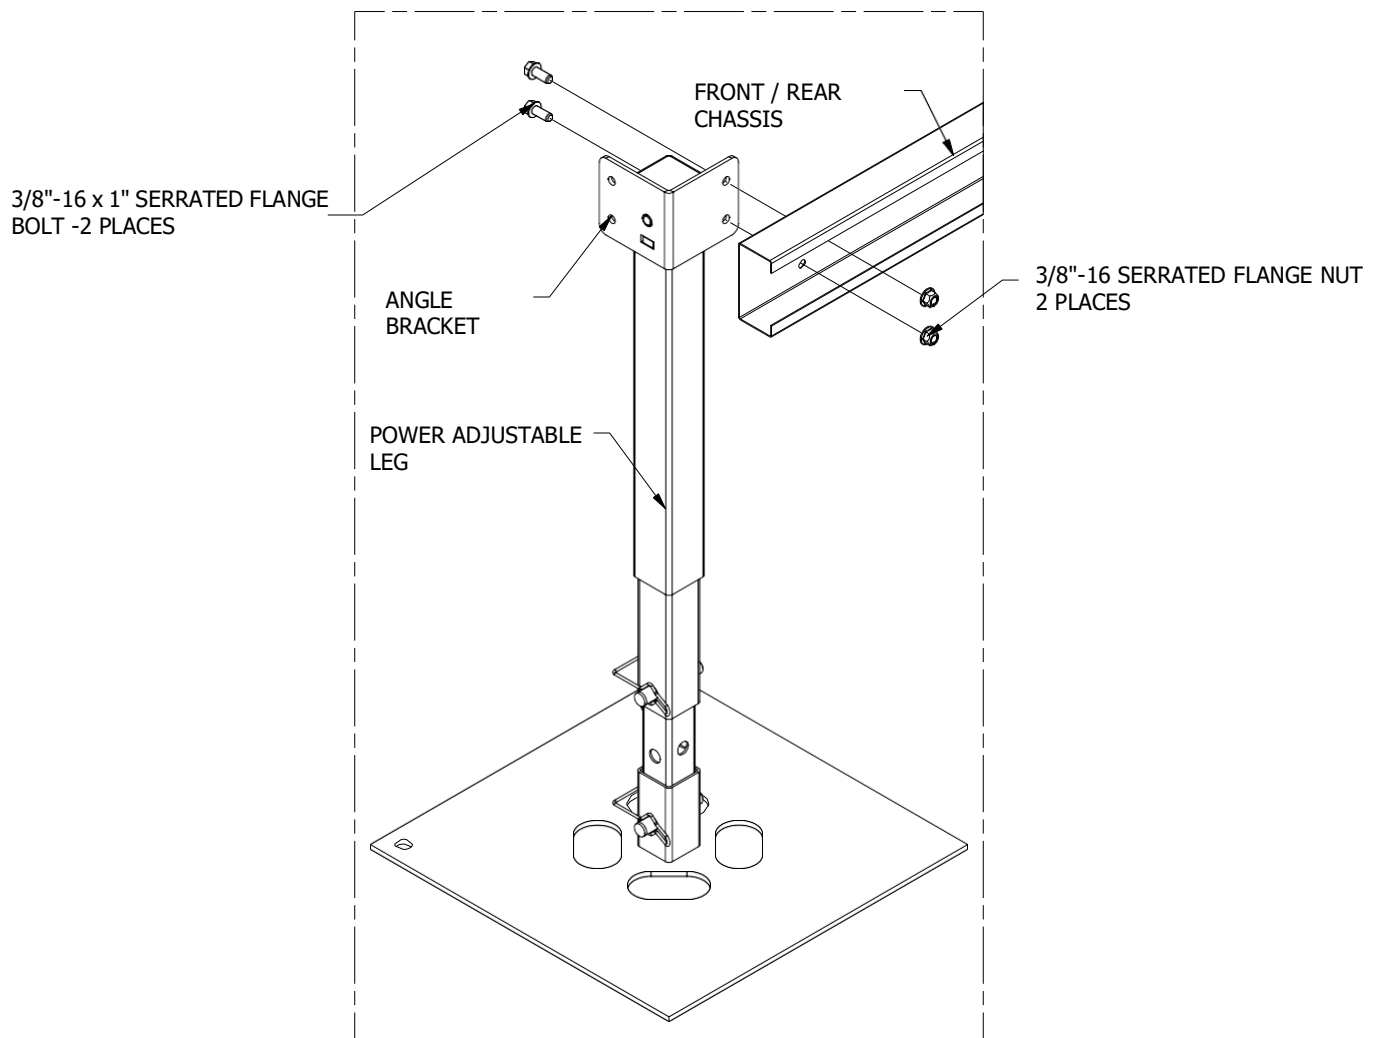

Figure 4: Front/Rear Chassis to Angle Bracket on Power Adjustable Leg
2. Next place the Front & Rear Chassis lengthwise at the location of the first Osprey PowerPlatforms®. Attach to the Angle Bracket of the Power Adjustable Leg with (2) 3/8"-16 x 1" serrated flange bolts and nuts making sure to align the Leg as seen below for the outside corners. See Figure 4 below: